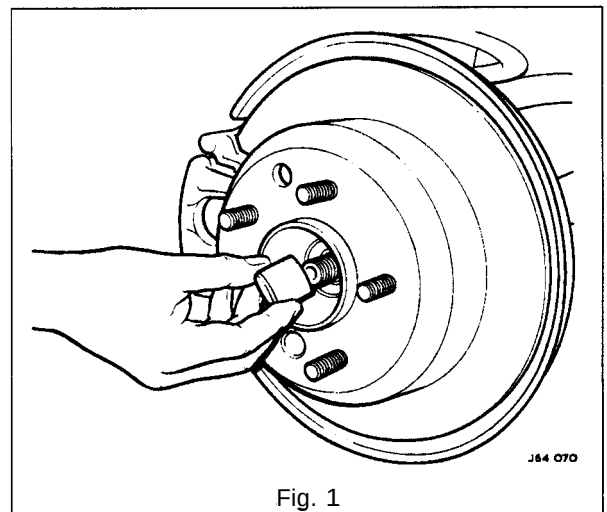
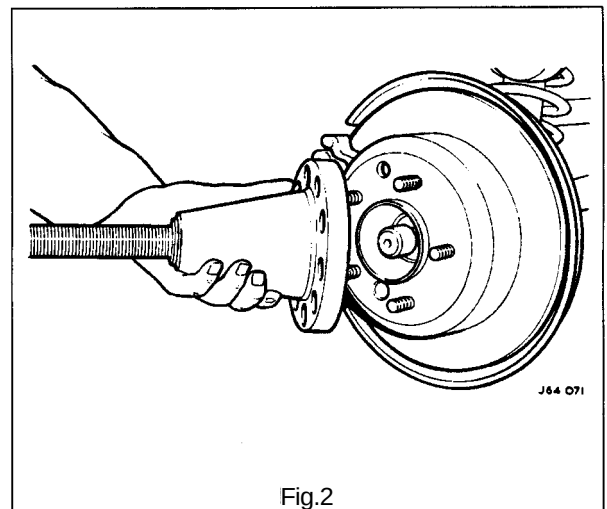

Fig. 1
Fig. 2
2. Differential strut to body (1 Fig. 2).
3. 'A' frame bush (2 Fig. 2).
4. Lower mounting bracket assembly to body (3 Fig. 2).
- With service tools JD 1D / 7 (Fig. 1) and JD 1 D (Fig. 2), push shaft through hub.
- Using Hub tool JD 132 - 1 (Fig. 2) and a suitable press, align the hub assembly to the tool ensuring the hand brake expander locates into the tool cut out.